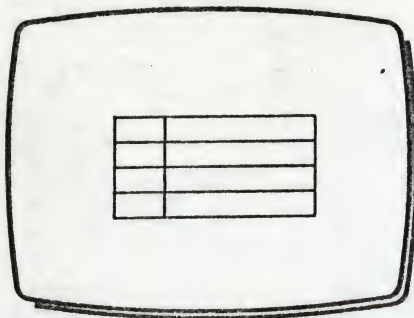

Fig 1
- 1 Draw, and then FILE the shape shown in Fig 1.